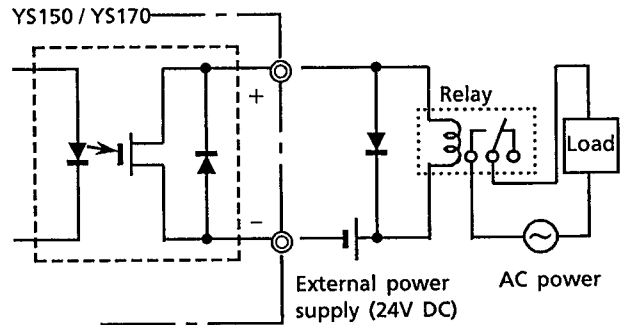

Figure 2.9 Connection of the Status Output When Driving a Load with AC Power
- An AC load cannot be switched directly by using the contact output. To switch the AC load, use a relay (see Figure 2.9).